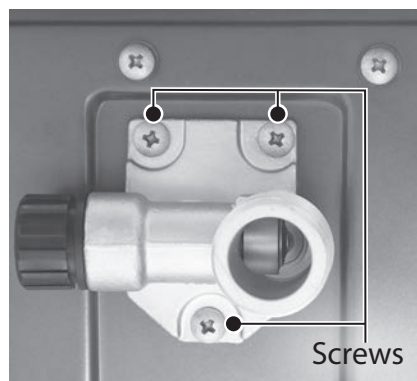

Figure 171 - Inlet assembly location
19 Locate the inlet assembly at the bottom right side of the water heater as shown in Figure 171.
20 Locate the three (3) screws securing the inlet assembly to the base of the water heater. Use a Phillips screwdriver to remove the screws. Place screws aside in a safe place for reinstallation. See Figure 171.